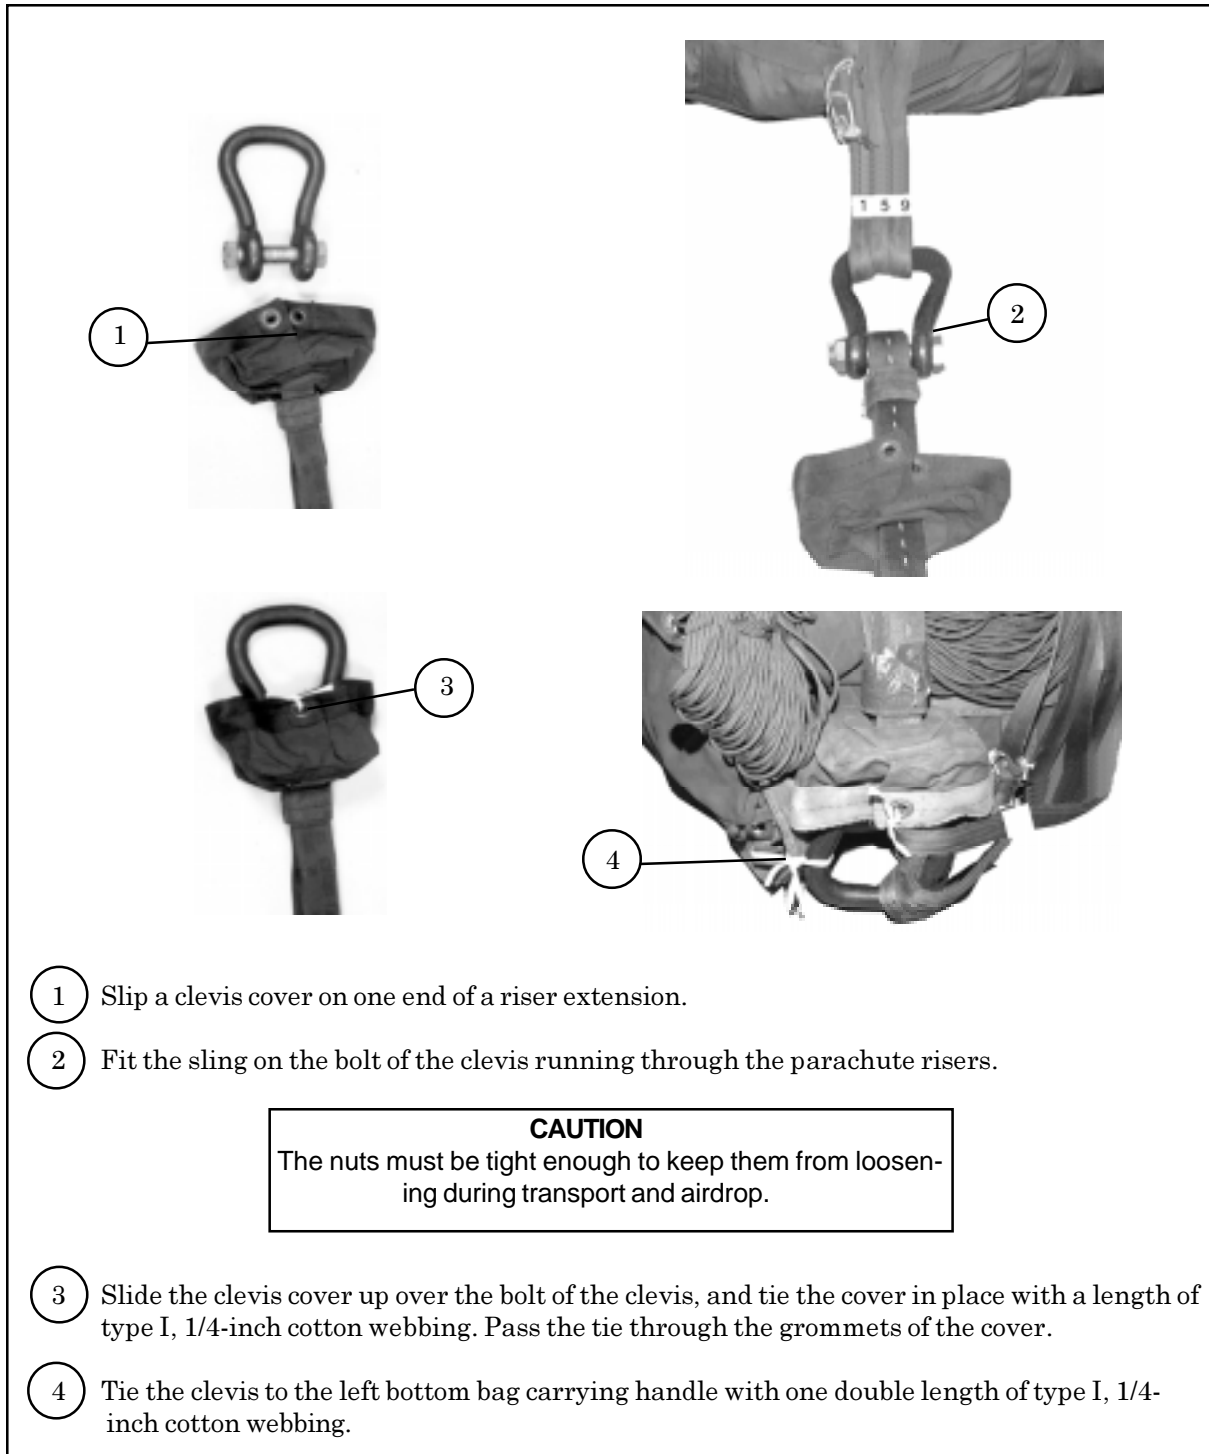

Figure 3-11. Riser Extension Bolted to Risers
- b. Bolting Extensions to Risers.* Bolt the riser extension to the risers of a cargo parachute as shown in Figure 3-11.